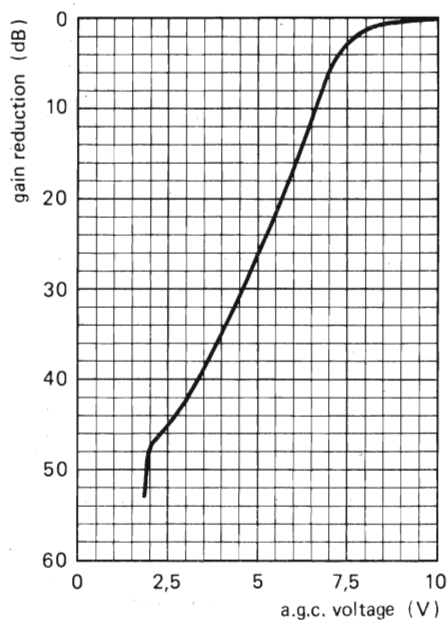

Fig. 4 Typical a.g.c. characteristic, band I.
A.G.C. voltage (Figs 4, 5 and 6)